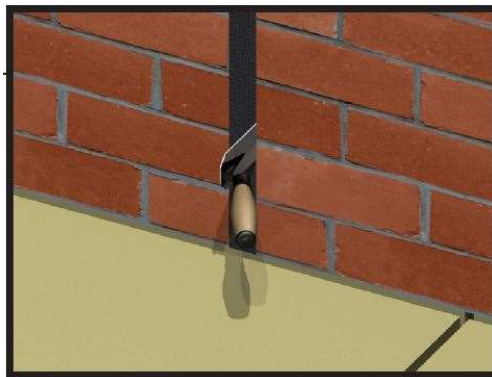

Figure 8
5. Use a putty knife to press the material against the joint wall. This will activate the pressure sensitive adhesive (PSA) and further help to support the material during expansion. See **Figure 8**